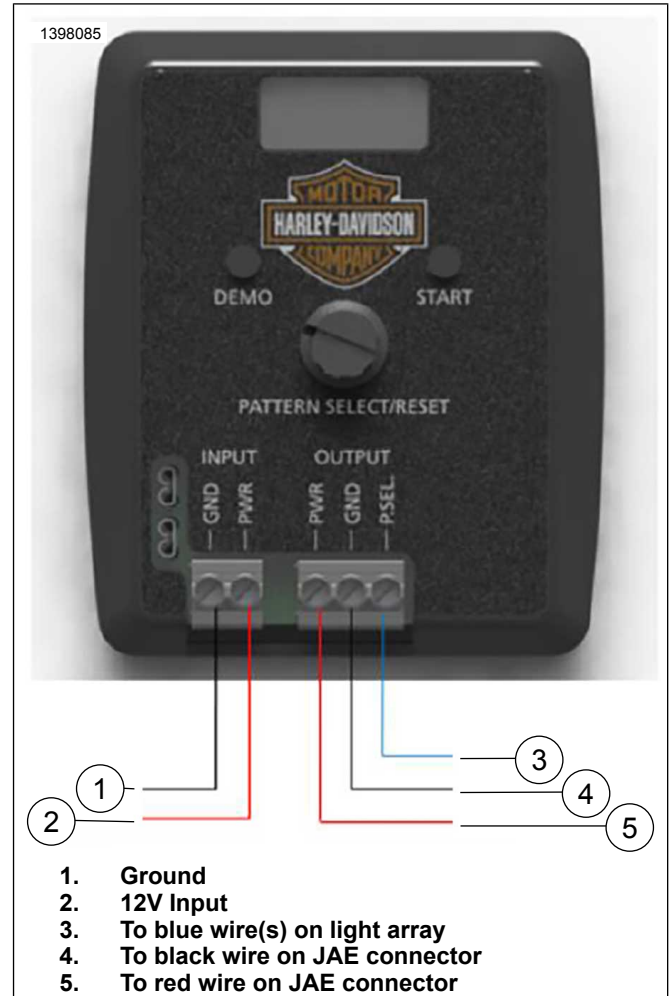

Figure 10. Pattern Programming Setup
- See Figure 10. Connect 12V power source to PSCP.
- See Figure 10. Connect light to OUTPUT terminals of PSCP (requires dealer supplied wire).